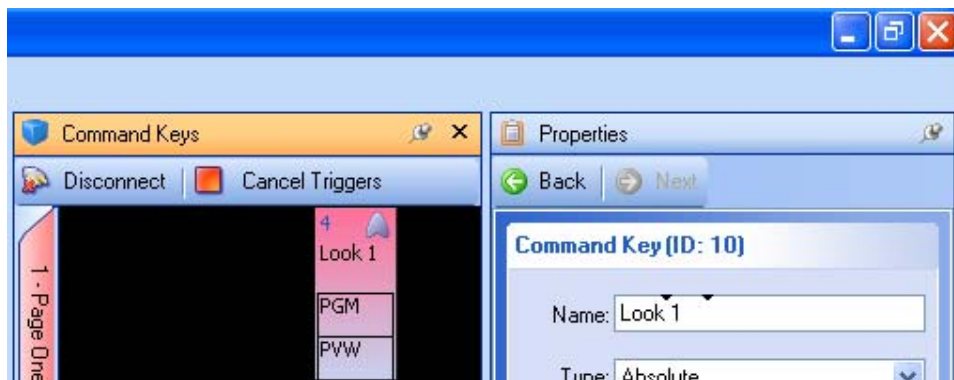

Figure 1
**Figure 1** displays a command key list in Vista Advanced containing a single command key named 'Look 1'. The number 4 is displayed in the top-left corner of the command key, denoting that the register ID for this command key is 4. Notice in the property panel to the right of the